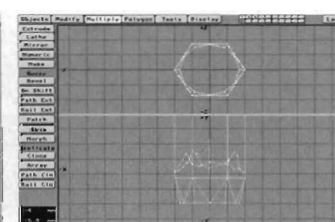

Figure 15
Remember to hit (Enter) to make the disc. Press (x) to cut, then (1) to go to layer 1. Hit (v) to paste the polygon into layer 1. Select the polygon you just pasted and the bottom polygon of the shaft. Choose Skin from the Multiply Menu (Figure 15). Let's go back to layer 4 so you can make the tip and lead. Once again, go to the Objects Menu, select Cone and enter the following: